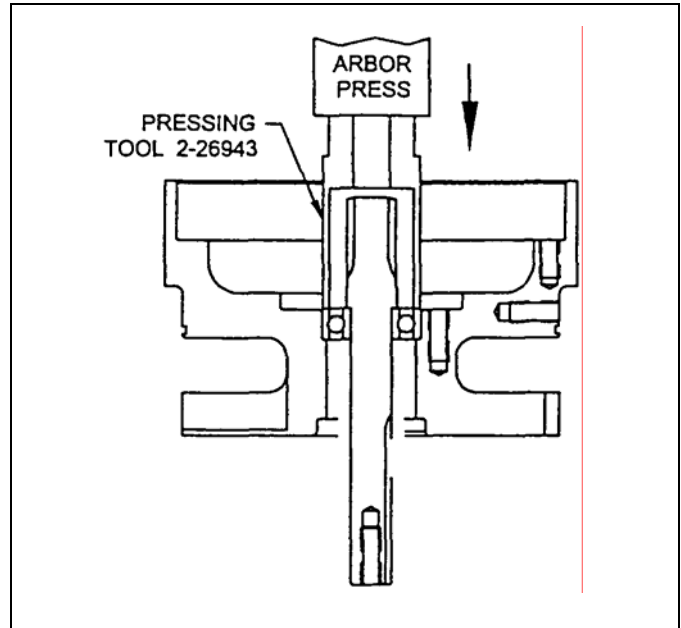

Figure 9. Turbine Shaft Installation
Press the turbine bearing/shaft assembly (11,24) into the turbine housing (21). Use press tool P/N 2-26943 if required per figure 9. Do not press on the end of the shaft because the load could damage the balls of the bearings.